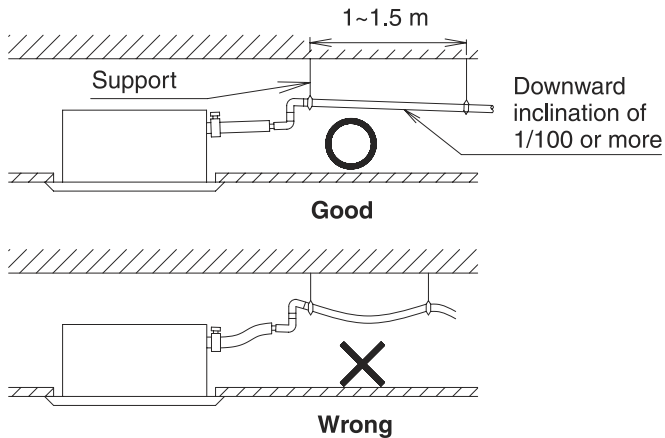

Fig. 14
- Install the drain piping as short as possible with downward inclination of 1/100 or more and without where air may stagnate. (Refer to Fig. 14) (It may cause abnormal sound such as bubbling noise.)
- Install supports at a distance of 1 to 1.5 m so that the piping may not deflect. (Refer to Fig. 14)
- Make sure to use the attached drain hose (1) and the metal clamp (2).